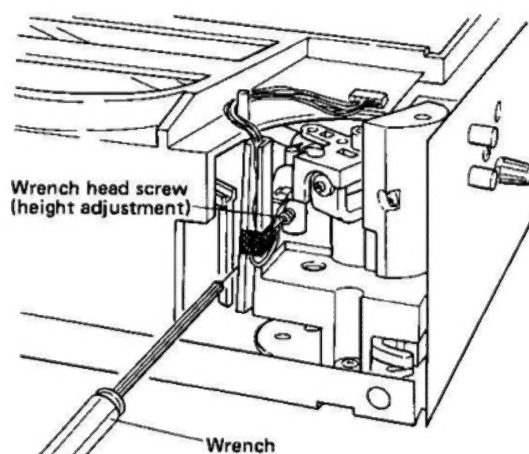

Fig. 13-3 Elevation Arm Height Adjustment
1. Put the arm elevation into UP position, and loosen the wrench head screw shown in Fig. 13-3. Once this screw has been loosened, the elevation sheet is pushed up to maximum height position by a spring in the elevation shaft.